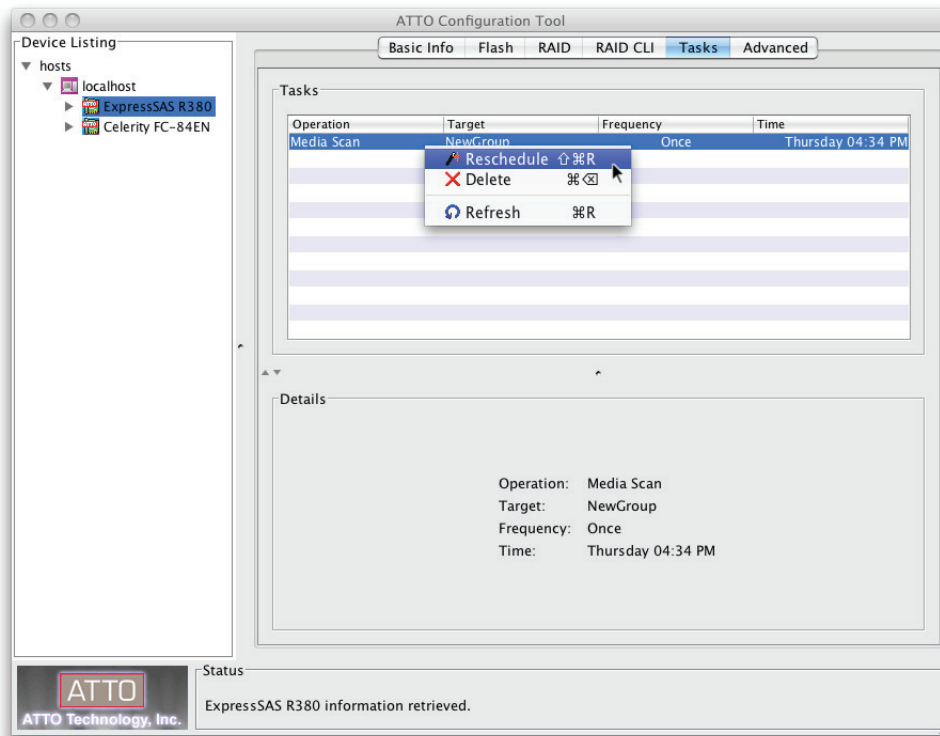

Figure 26
3. Control-click (or right-click) the RAID group and select Reschedule to change the Media Scan schedule, or Delete to delete the Media Scan. You may also select Task Management > Reschedule, or Task Management > Delete from the application menu. See **Figure 26** on page 31.